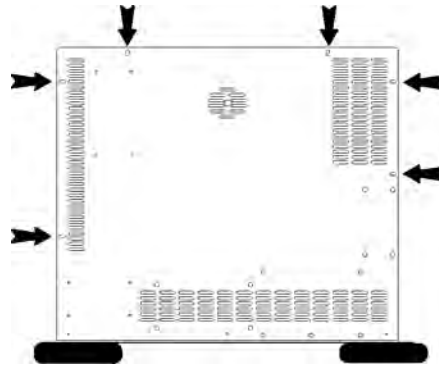

Figure 4-11. Back Panel Screws
4. Remove the six screws securing the back panel, identified with arrows in Figure 4-11. Allow the back of the unit to swing down.